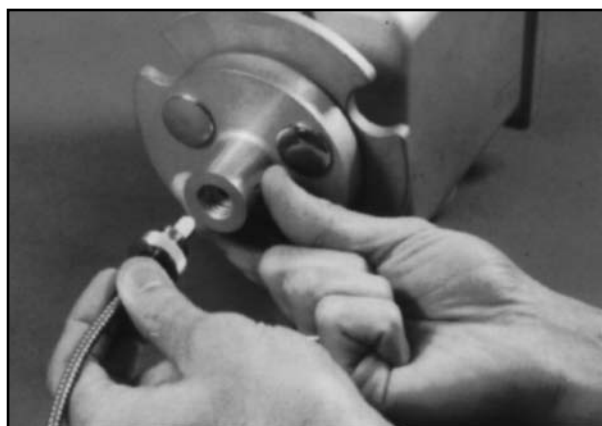

FIG. 2F.21—COUPLING THE FIBER OPTIC CABLE TO A REIMAGING LENS OR EXTENSION TIP (*top*) and TO THE SENSOR FLANGE (*bottom*)
4. Insert the couplers into the corresponding coupler sockets on the Reimaging Lens or Extension Tip, as shown in Fig. 2F.21. Then, couple the cable to the Sensor Flange Fixture. Rotate the knurled locking nut to seal the coupling.